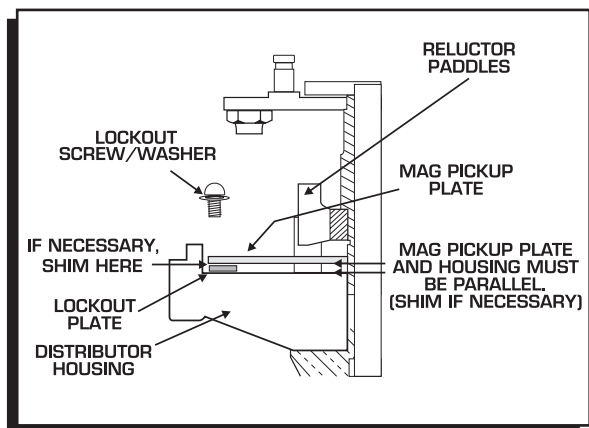

Figure 11 Checking Installation of the Lockout Plate.
6. It is important to make sure the pickup plate is parallel with the housing of the distributor (Figure 11). If it is cocked or slanted, the paddles of the reluctor may contact the pickup. Check the clearance by rotating the distributor shaft. If necessary, use the supplied shims under the Lockout hold-down to correctly position the pickup plate.